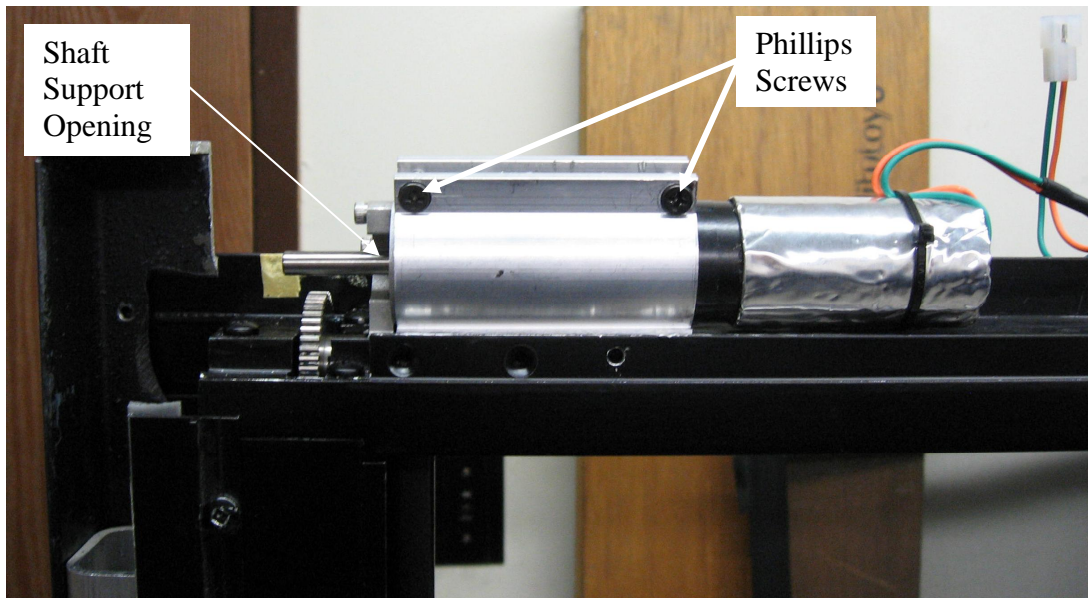

Figure 29
- 6) Slide the gear motor back into the motor mount being careful to align the shaft with the opening in the shaft support mount (Figure29)